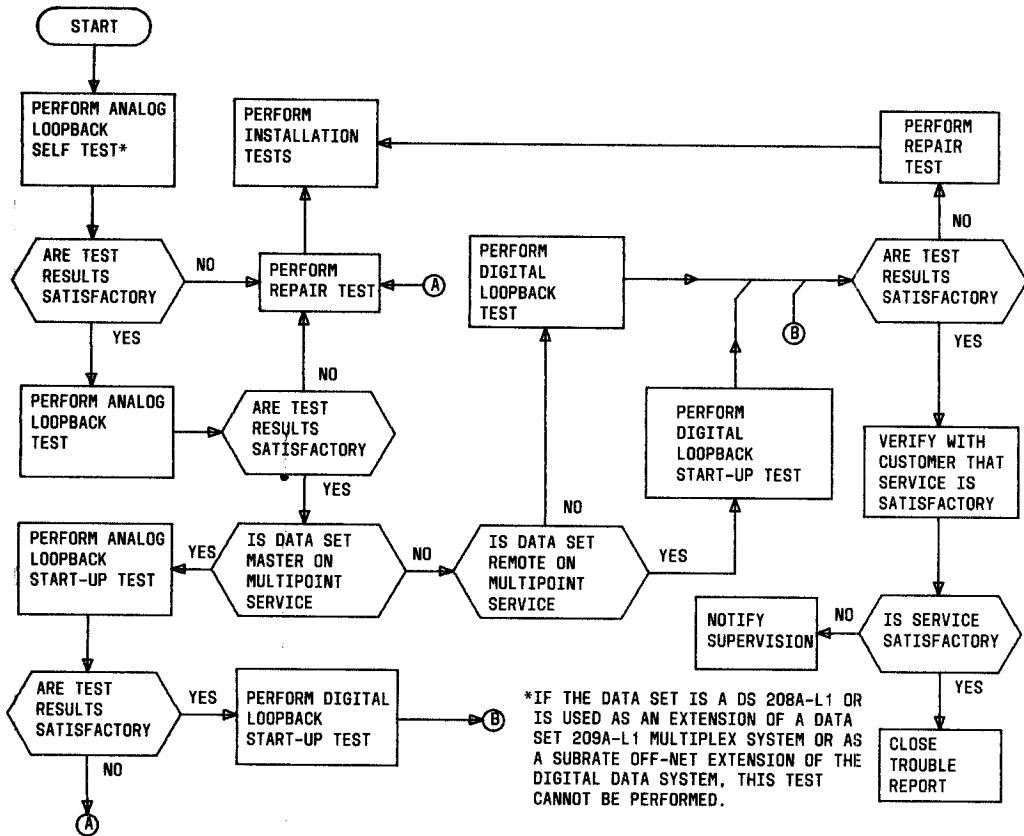

Fig. 4—Maintenance Test Sequence
**3.05** The sequence in which tests are to be performed by the telco employee at the data station is shown in Fig. 4. If the trouble is isolated to the data set, the repair test procedures in paragraphs 4.35 and 4.36 are to be performed to isolate the trouble to a circuit pack in the data set.